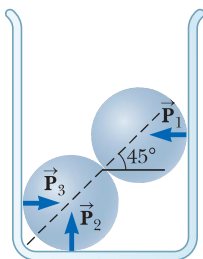

Figure P12.59
59. Two racquetballs, each having a mass of 170 g, are placed in a glass jar as shown in Figure P12.59. Their centers lie on a straight line that makes a 45° angle with the horizontal. (a) Assume the walls are frictionless and determine P_1 , P_2 , and P_3 . (b) Determine the magnitude of the force exerted by the left ball on the right ball.